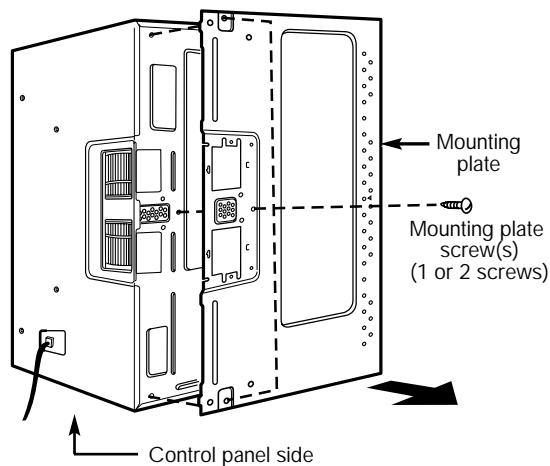

Figure 11
3. Remove mounting plate screw(s) (1 or 2 screws) from the mounting plate as shown and discard (see Figure 11).